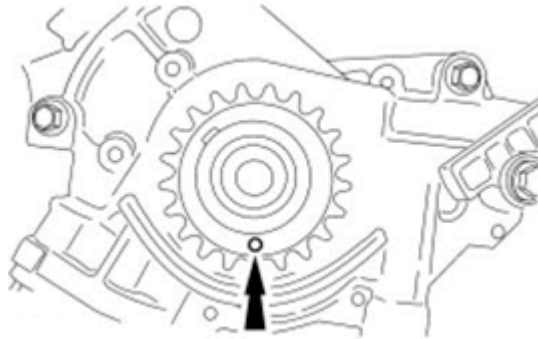

Figure 1 – Cranksahft Timing Mark at 6 o'clock position
1. Rotate the crankshaft to position the crankshaft sprocket timing mark in the 6 o'clock position as shown in Figure 1.